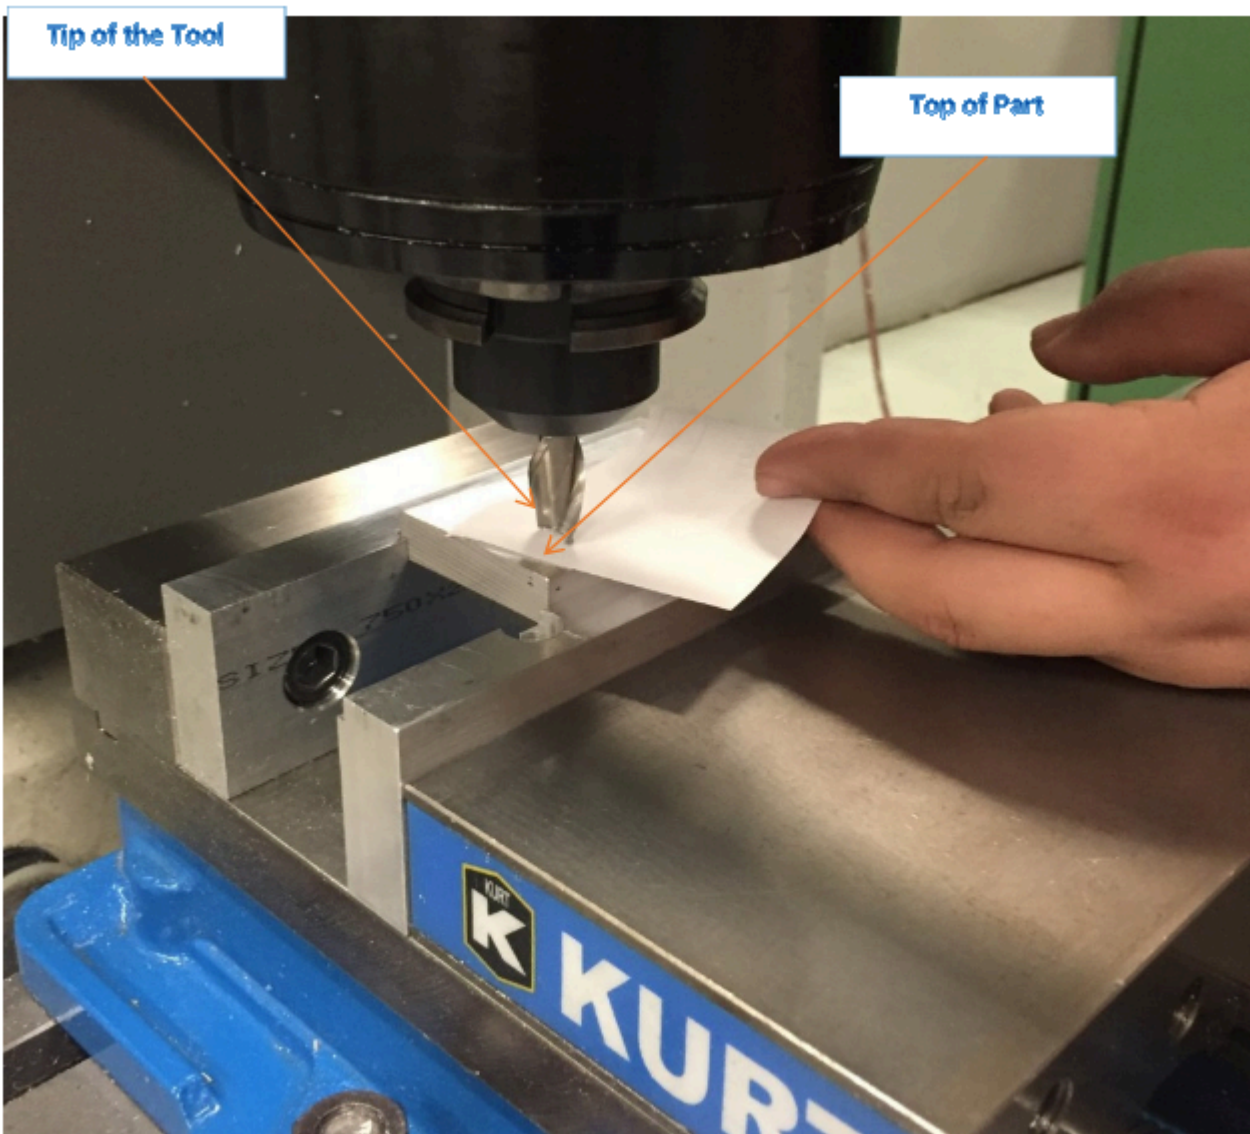

Figure 15. Setting Tool Offset (sheet of paper)
Setting Tool Offset. With the Z Axis at its home position, Tool Length Offset is measured from the tip of the tool (1) to the top of the part (2). See Figure 15.
1. Load the tool in the spindle (1).
2. Press (HANDLE JOG) (F).
3. Press (.1/100.) (G) (The mill moves at a fast rate when the handle is turned).
4. Select between the X and Y axes (J) and handle jog (K) the tool near the center of the part.
5. Press (+Z) (C).
6. Handle jog (K) the Z Axis approximately 1" above the part.
7. Press (.0001/.1) (H) (The mill moves at a slow rate when the handle is turned).
9. Press (OFFSET) (D).
10. Press (PAGE UP) (E) until you display the Program Tool Offsets window. Scroll to tool #1.